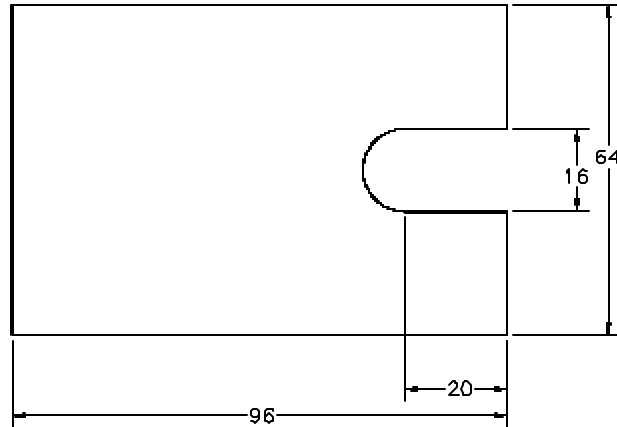

Figure 24-41 Base for the solid model
2. Create the base of the model with the dimensions as shown in Figure 24-41.